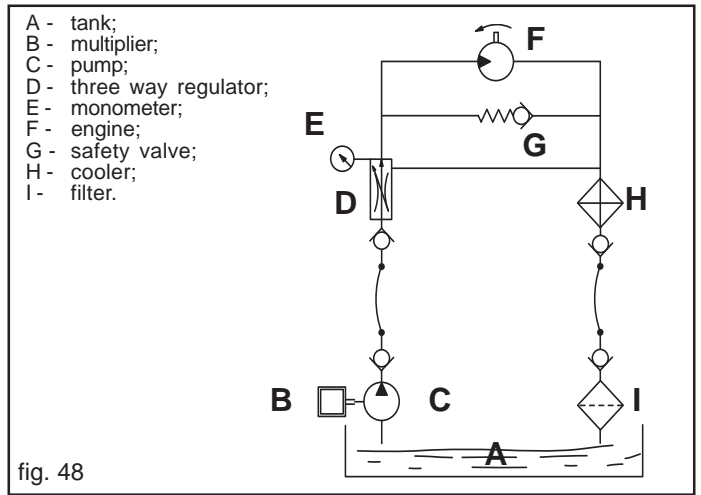

fig. 48
- Oil supply: follow the data in the table in Fig. 48.